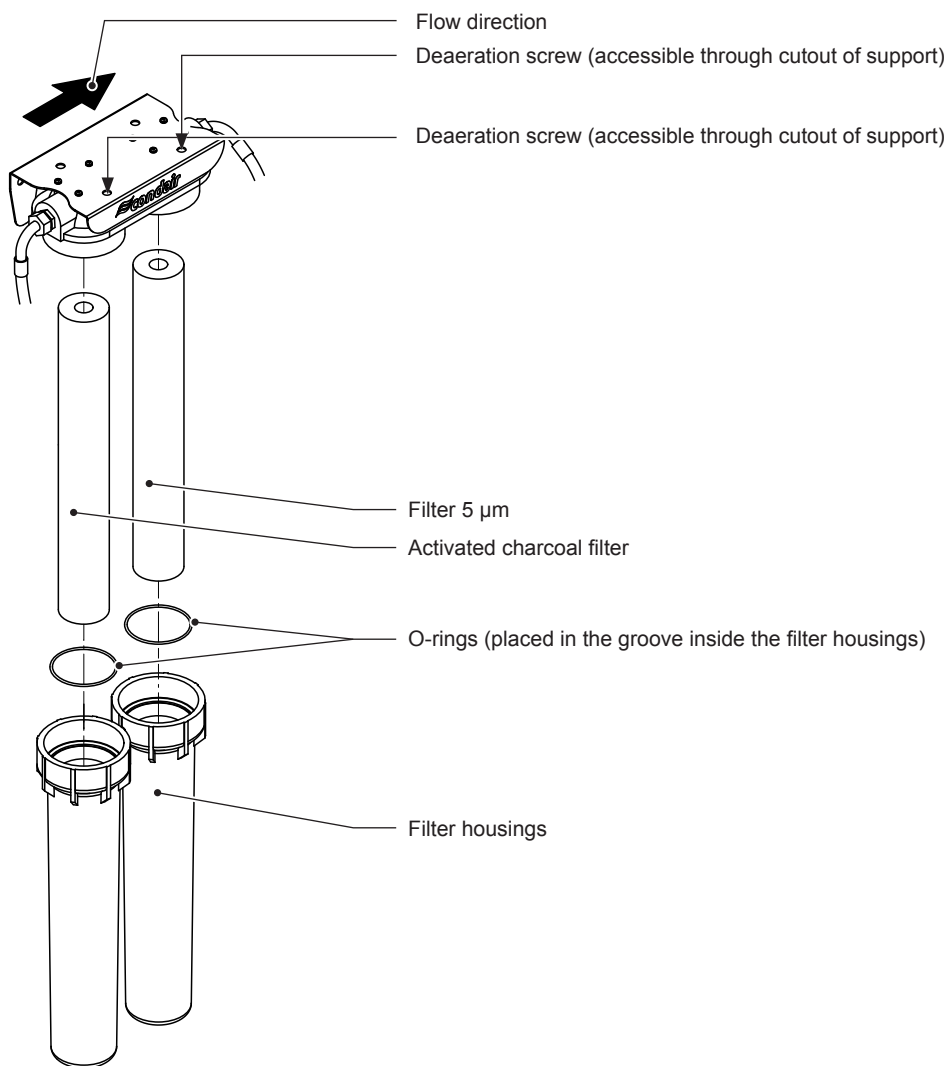

Fig. 15: Membrane replacement
8. Insert the appropriate filter cartridge (see Fig. 15) into the filter housing. Centrally align filter cartridge inside the housing and ensure the sealing of the filter cartridge is correctly placed.